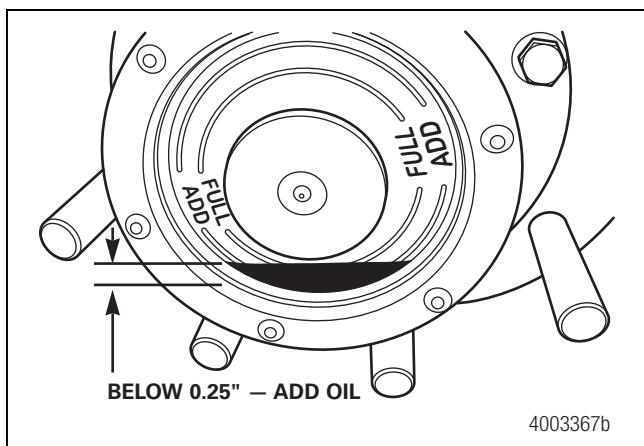

Figure 14.5
4. Inspect the wheel-end oil level at least every 1,000 miles (1600 km). To check, verify that the vehicle is on level ground, then clean the hubcap window and observe the oil level. Add lubricant if the oil level is down more than 0.25-inch (6.3 mm) from the full line. Figure 14.5.